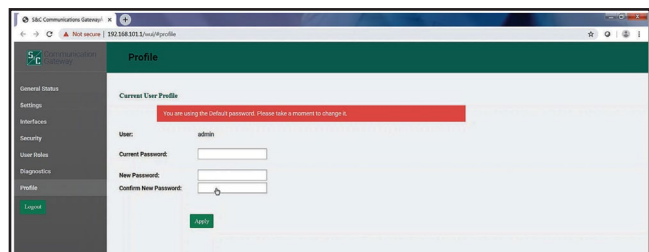

Figure 28. The *Change Password* screen.
- STEP 1.** When the default username and password are entered, the *Profile* screen opens and prompts assignment of a new password entry and confirmation. Change the default password to a unique password for security purposes. When entries are complete, click on the **Apply** button to save the new password. See Figure 28.